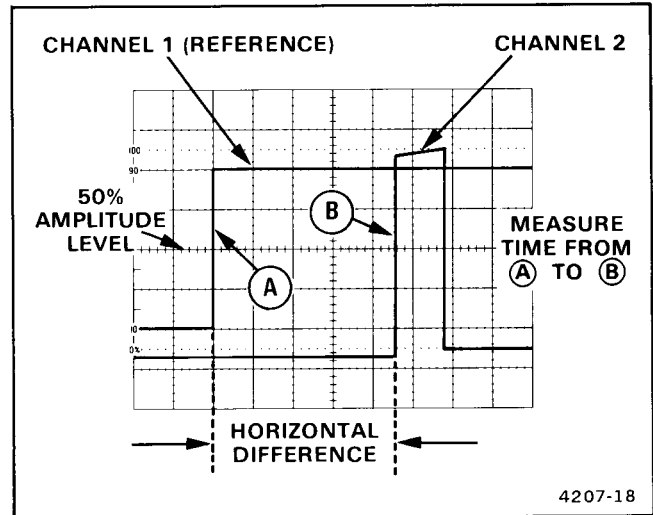

Figure 4-8. Time difference between two time-related pulses.
9. Set the A SEC/DIV switch to a sweep speed which provides three or more divisions of horizontal separation between the reference points on the two displays. Center each of the displays vertically (see Figure 4-8).